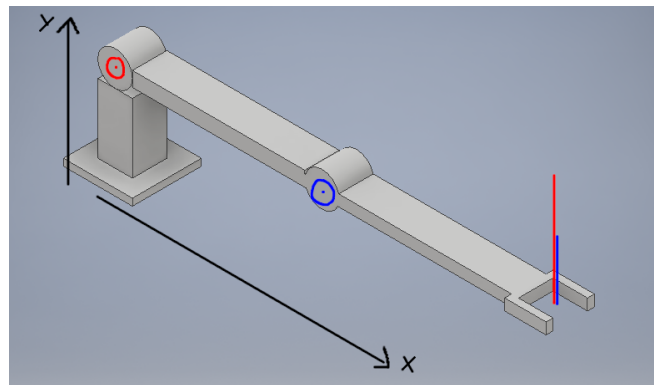

Figure 4: Example for a workspace internal singular configuration
2. Workspace internal singularities occur when at least two rotation axes are aligned. Imagine a fully extended planar 2 DOF arm. In this configuration the arm loses a degree of freedom, as movement of the arm results in the same motion direction (see fig. 4). Therefore the TCP velocity in the direction of x cannot be different from 0 and therefore $\det(J) = 0$.